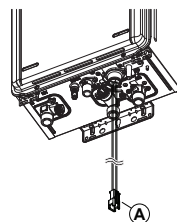

Fig. 1
3. Pass sufficient cable through the cable access (Fig. 1) and plug in to PCB connection ©;